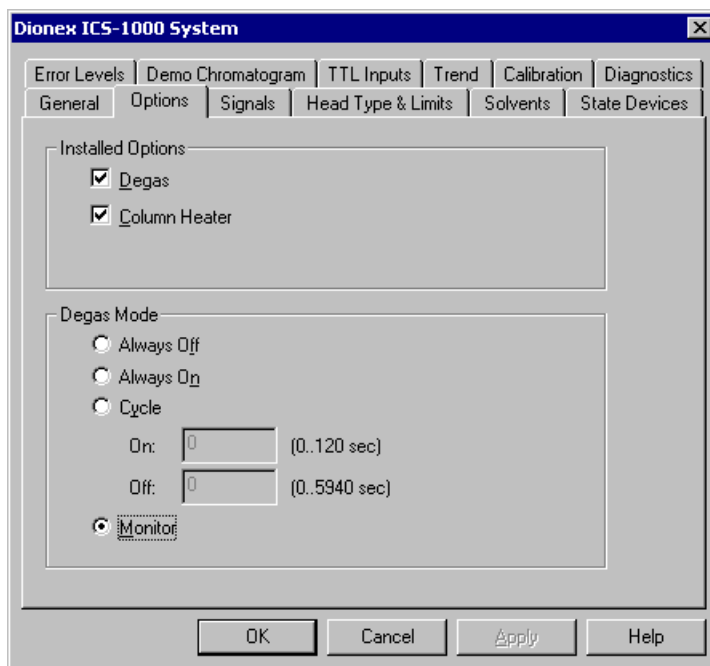

Figure 4-1. ICS-1000 Server Configuration Properties: Options
2. Select the **Options** tab (see Figure 4-1).